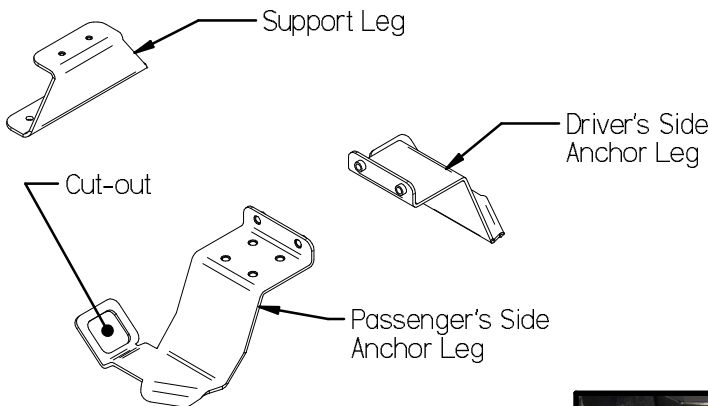
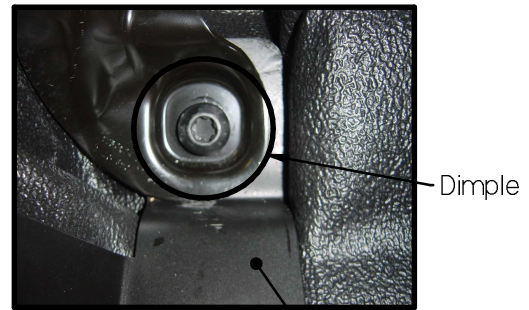

FIG. 1
FIG. 2
2. Lift one of the seats from the front and slide the corresponding Anchor Leg between the seat frame leg and the floor. The cut out in the Anchor Leg (see FIG. 1) will rest around the dimple in the seat frame leg (see FIG.2). Replace the bolts in removed in the previous step, but do not tighten all the way. Repeat on the other seat.